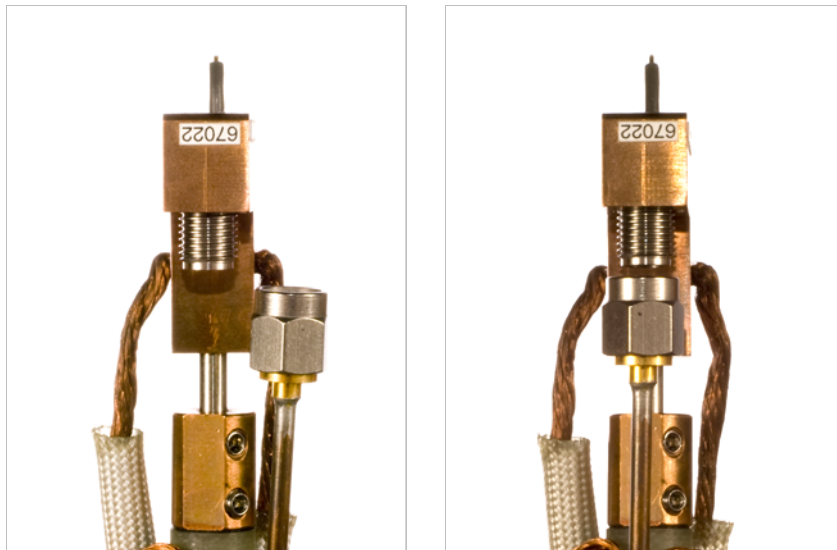

FIGURE 3-29 Left: Misaligned probe; Right: A properly aligned probe
5. As you slide the microwave dowel onto the probe arm, note the relative height of the microwave connector socket on the probe and the microwave connector plug on the semirigid cable. If the relative heights of the two connectors do not match, the semirigid cable can be gently bent using the thumb and forefinger to align the connector plug with the height of the connector socket (FIGURE 3-29).